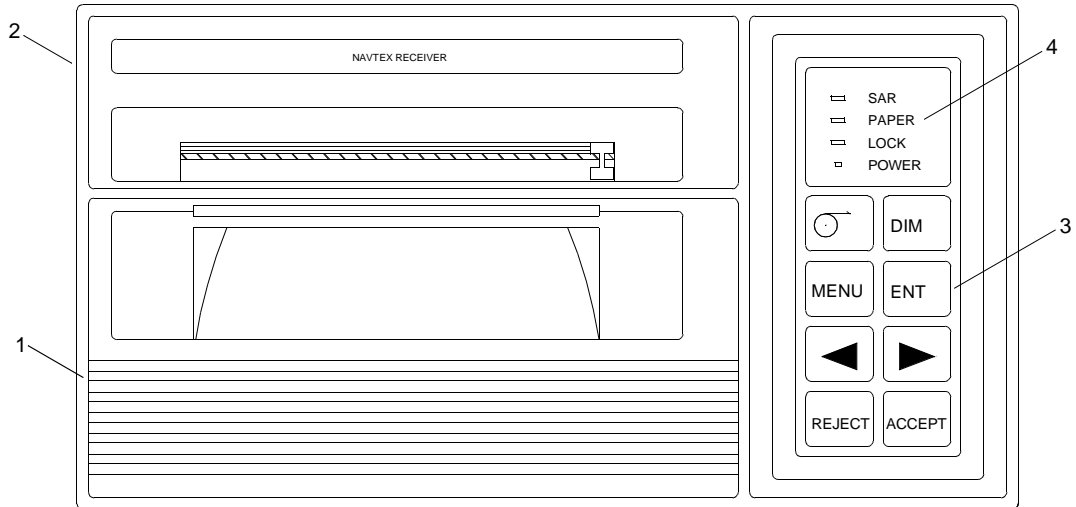

Figure 7. NAVTEX Receiver
6. Close the paper cover (figure 7, item 1) on the NAVTEX receiver (figure 7, item 2).
7. Press the ENT key (figure 7, item 3) to complete paper replacement.
8. Verify that the PAPER indicator light (figure 7, item 4) is no longer illuminated.